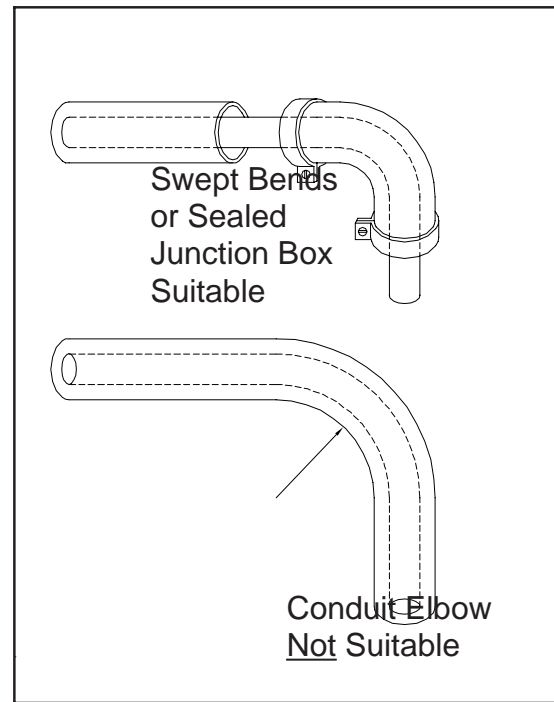

Figure 29
4. Where bends are required, long, smooth, radius bends must be used to prevent cable damage. Do not use conduit elbows or sharp bends. Such components will cause damage to the sensor cable during installation as the bend radius is less than the recommended minimum radius of 100mm (4"). See Figure 29.